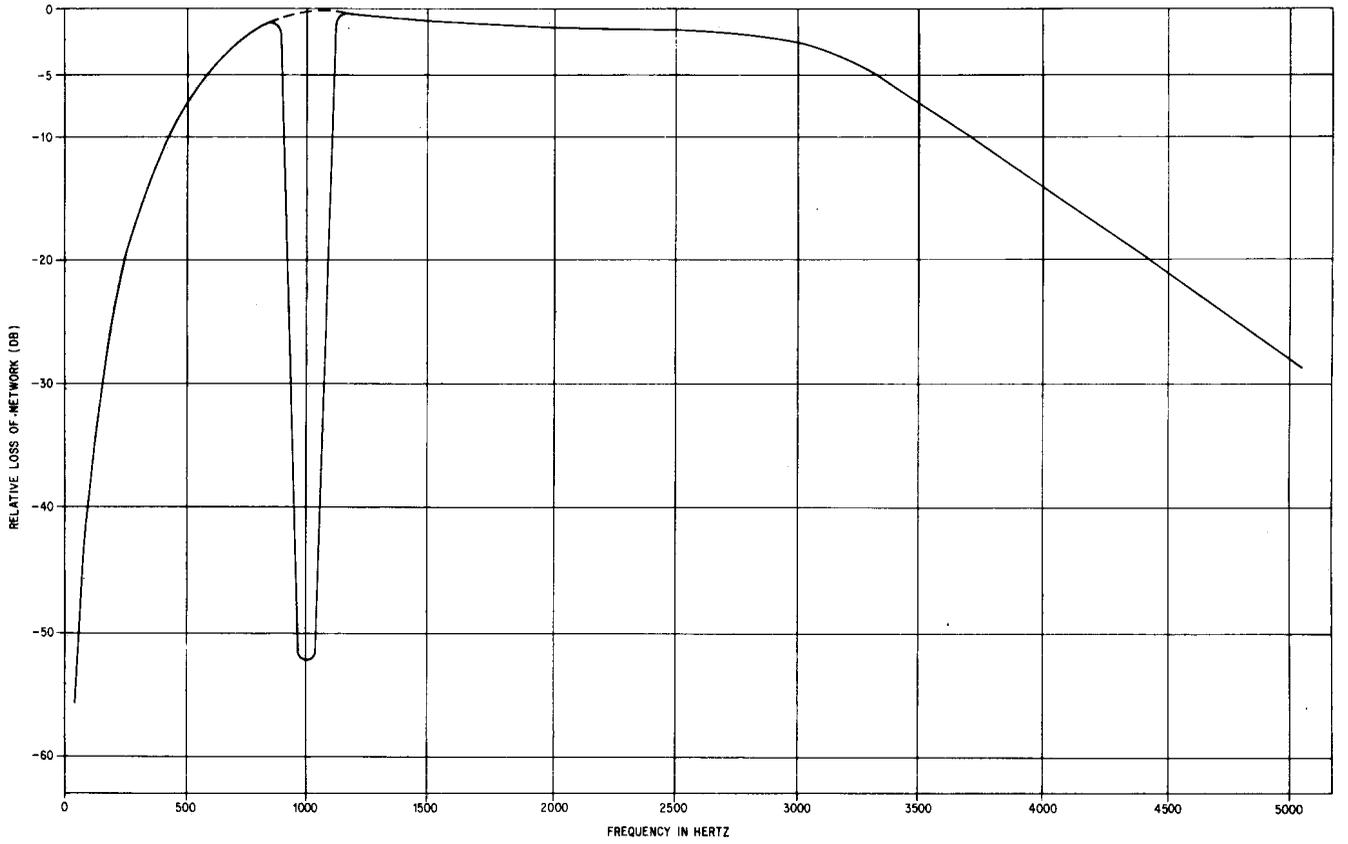

Fig. 5—Notch Characteristic Curve
3.02 The C-notch weighting characteristic, is shown in Fig. 5. The C-notch characteristic has the C-message frequency weighting with a 50 dB notch, 30 Hz wide, centered at 1010 Hz. The notch attenuates typical holding tones from 995 Hz through 1025 Hz. Noise measured with a holding tone on a compandored facility (such as N- to T-Carrier) is a more accurate guide to performance than a noise measurement without a holding tone. The C-notch filter removes the holding tone to permit the 3C noise measuring set to measure the remaining noise on the facility.